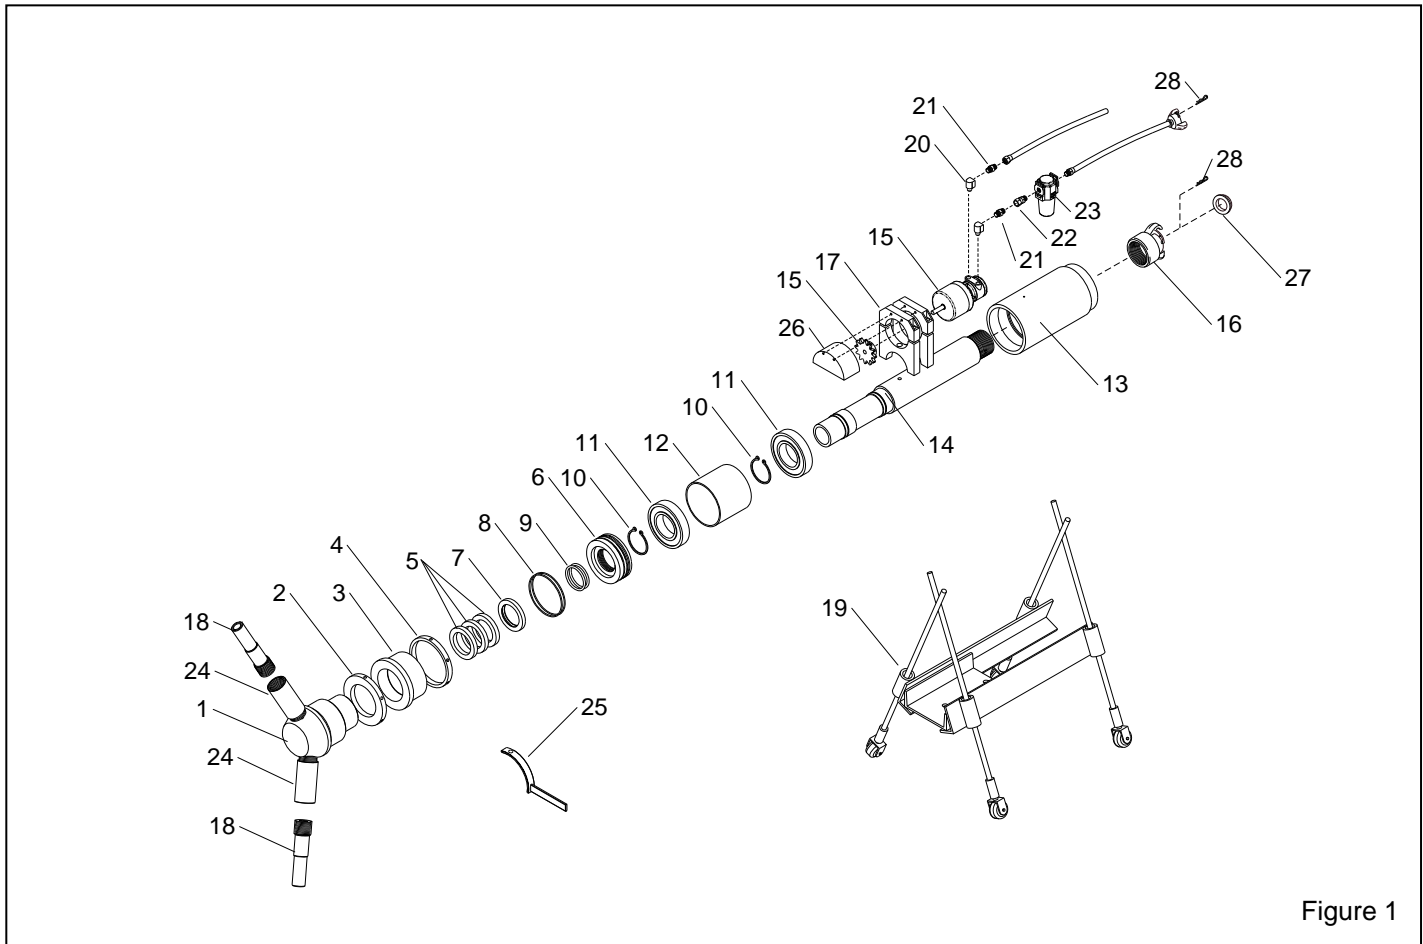

Figure 1
### 6.0 MAINTENANCE, Refer to Figure 1
**8.1 Spin-Blast HD Assembly, Figure 1**